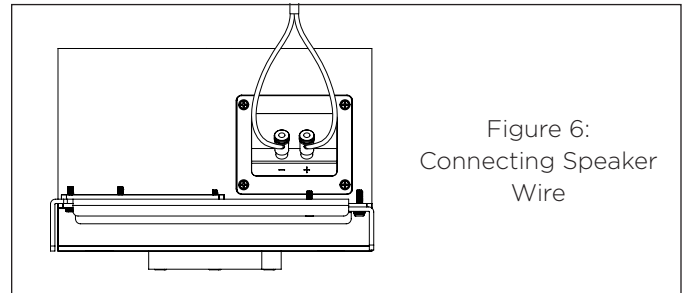

Figure 6: Connecting Speaker Wire
10. Run speaker wire from the amplifier location to the speaker location and connect the positive to the red spring terminal and the negative to the black spring terminal (see Figure 6).